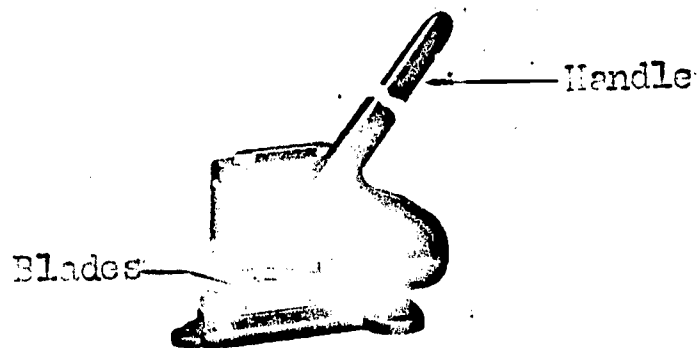

Fig. 2 Bench lever shears
2. Now you are ready to shear off the metal. Open the blades by pushing back the handle of the shear. See Fig. 2.